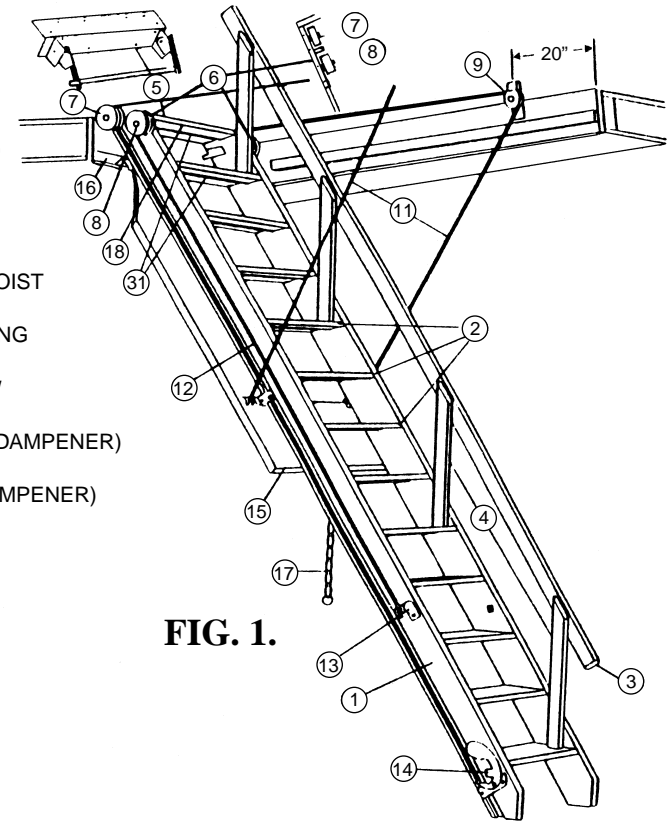

FIG. 1.
STEP 4. INSTALLING THE HANDRAIL. Using the handrail (#3) is optional but recommended. The handrail can be attached to either side of the ladder to the inside of the stringer. However, this handrail is designed to be mounted on the inside right hand stringer with the lowest handrail post (#4) resting on the second step butted up against the third step (See Fig. 1.). Attach the posts to the side of the stringer using #10 x 1-1/4" Pan Head Screws.